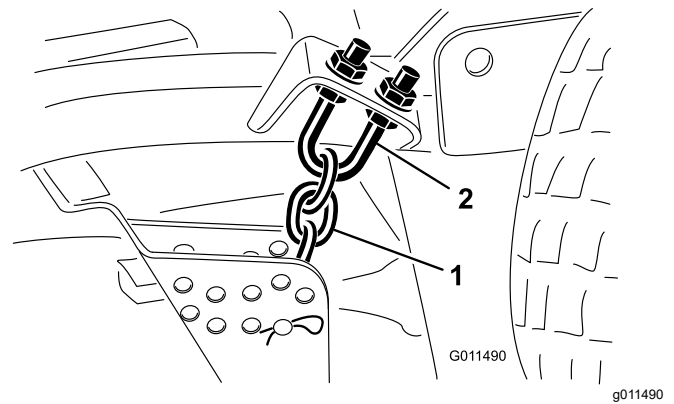

Figure 120
1. Loosen the jam nuts at the top or bottom of the height-of-cut chain U-bolt (Figure 120).